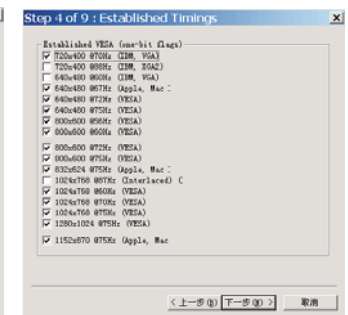

Fig. 38
3. Click Next, bring up Fig. 38.